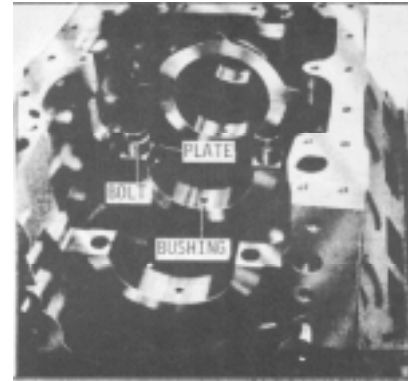

Fig. 9 Position of Bushing and Hold Down Plate
- (16) Check the insert for alignment and fit.
- (17) Mark the drill 1/4" from the end, using a 1/8" drill bit.
- (18) Drill the saddle through the four predrilled holes in the insert.
- (19) Clean the drilled holes with compressed air and install the rivets.
- (20) Secure the rivets with a hammer and punch. retention of the insert. Be careful not to strike the insert directly, as the insert will distort. Two or three blows on the punch are usually sufficient to secure the rivets (Fig. 9). Note: Rivets are intended for locating more than retention. The bearing and cap provide
- (21) File off the excess rivet material (Fig. 9).
- (22) Remove both the insert hold downs and file the excess material on the insert flush with the saddle-cap parting surface. If the insert is loose, secure the rivets.
- (23) Install and tighten the bolts for the Service Line Bore cap to the torque specified (section 1.1).
- (24) Line bore the cap and insert to the standard bore dimensions, using previous procedure and dimensions in step 8.
- (25) Remove burrs, debris and clean with spray